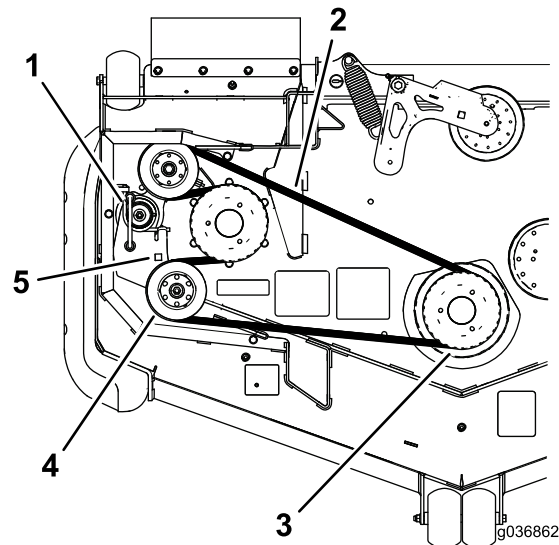

Figure 96
7. Use a ratchet in the square hole in the idler arm to remove tension on the idler spring (Figure 96).
8. Remove the belt from the mower deck pulley (Figure 96).
9. Remove the belt from the remaining pulleys (Figure 96).
11. Using the ratchet in the square hole, remove the tension on the spring, and guide the new belt around the idler pulley (Figure 96).